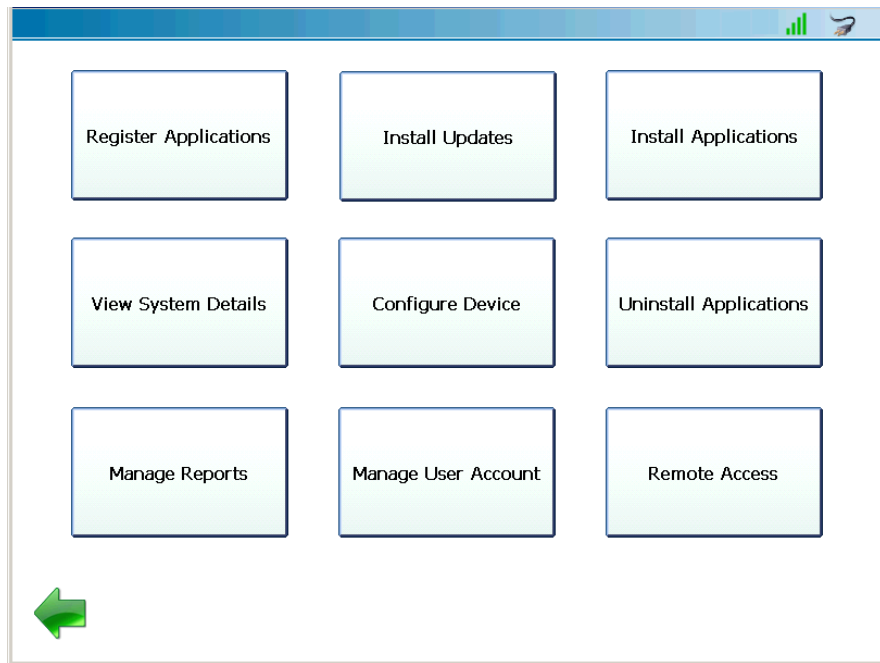

Figure 5.54 Admin Menu
- 1 Select **Manage User Account** from the Admin Menu (Figure 5.54).
You are returned to the **Admin Menu** (Figure 5.54).
- 1 Select **Remote Access** from the Admin Menu (Figure 5.54).